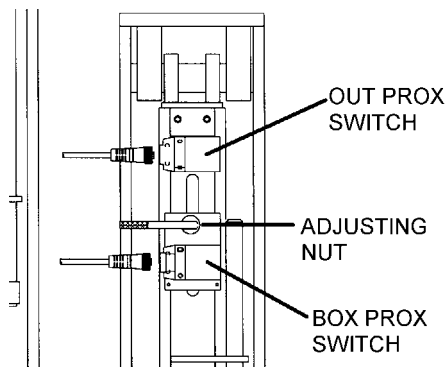

Figure 57D
4. Loosen adjusting nut (see Figure 57D) and move switch down until actuator (target) bar is located in front of switch sensing head. The (yellow) signal light on the switch will be illuminated. (The green power light must always be illuminated. This comes on when the ignition power is on.)